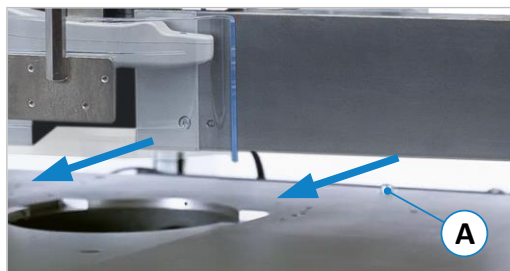
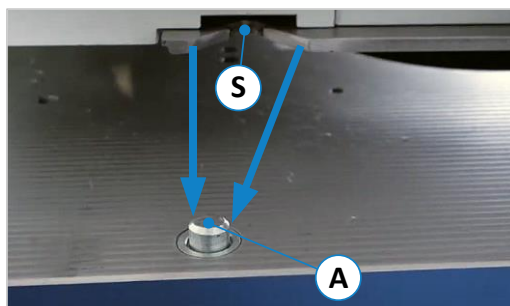

Figure 54: Move centrally over milling spindle
Figure 55: Align dovetail receptacle to locking pin
- Move the fence over the machine table with the help of a second person, with a suitable hoist or with the optional Swivel-away device so that it is approximately centred over the milling spindle (see ⇒ Figure 54).
- Now stand on the back of the machine and pull the fence with the dovetail receptacle (S) as close as possible against the locking pin (A).
- Now set the fence down and move the rest by hand so that the locking bolt (A) engages securely in the receptacle (S) as shown in ⇒ Figure 55.